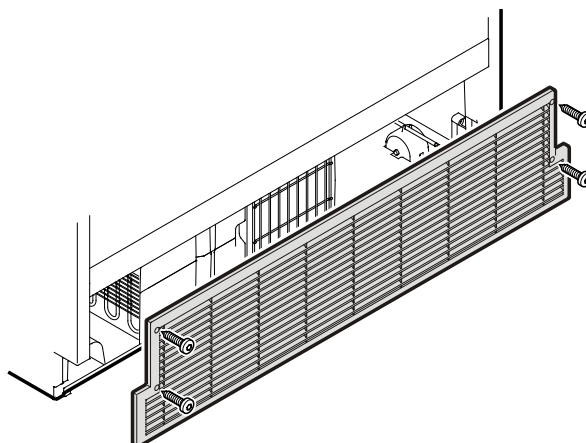

Figure 15
3. Mount the ventilation grille as shown in Figure 15.